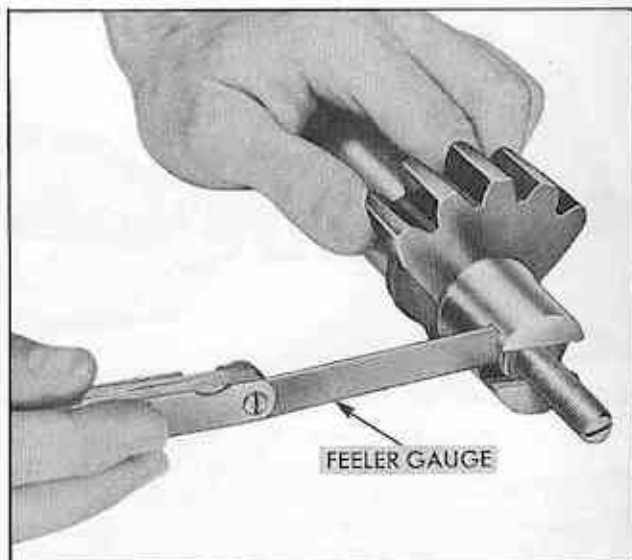

Fig. 79 Checking End Play of Lash Adjuster Screw
1. Check end play of lash adjuster screw in slot of pitman shaft by inserting a feeler gauge between head of screw and bottom of slot (Fig. 79). If end play exceeds .002", select proper shim to give less end play. The shims are available in four different thicknesses: .063", .065", .067" and .069".